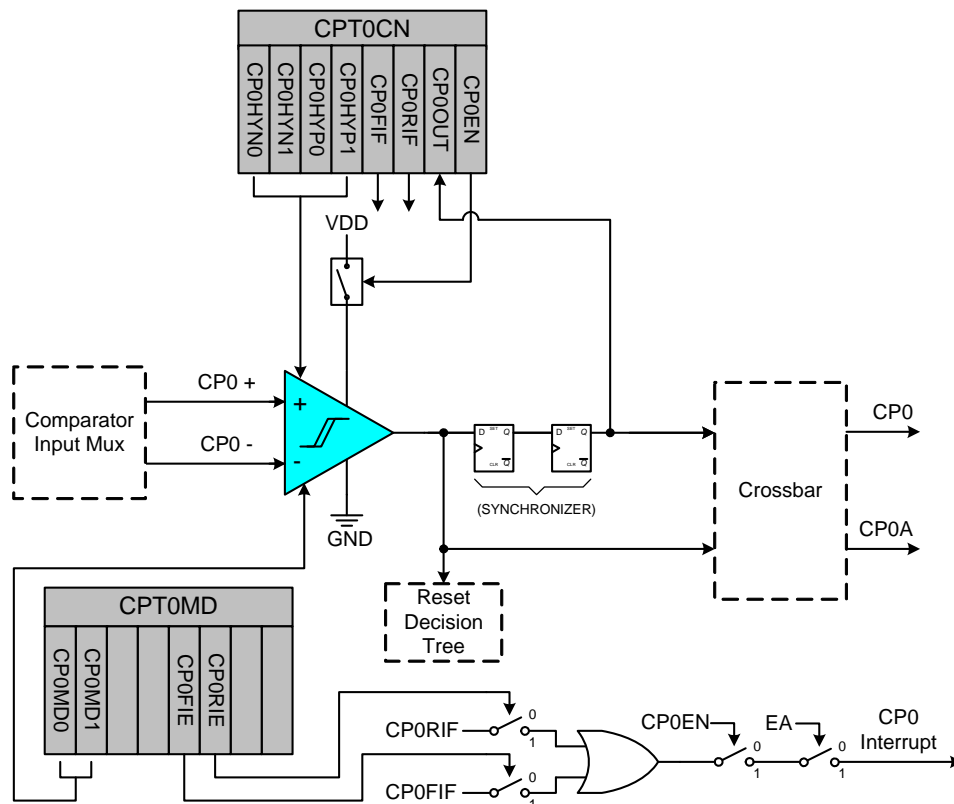
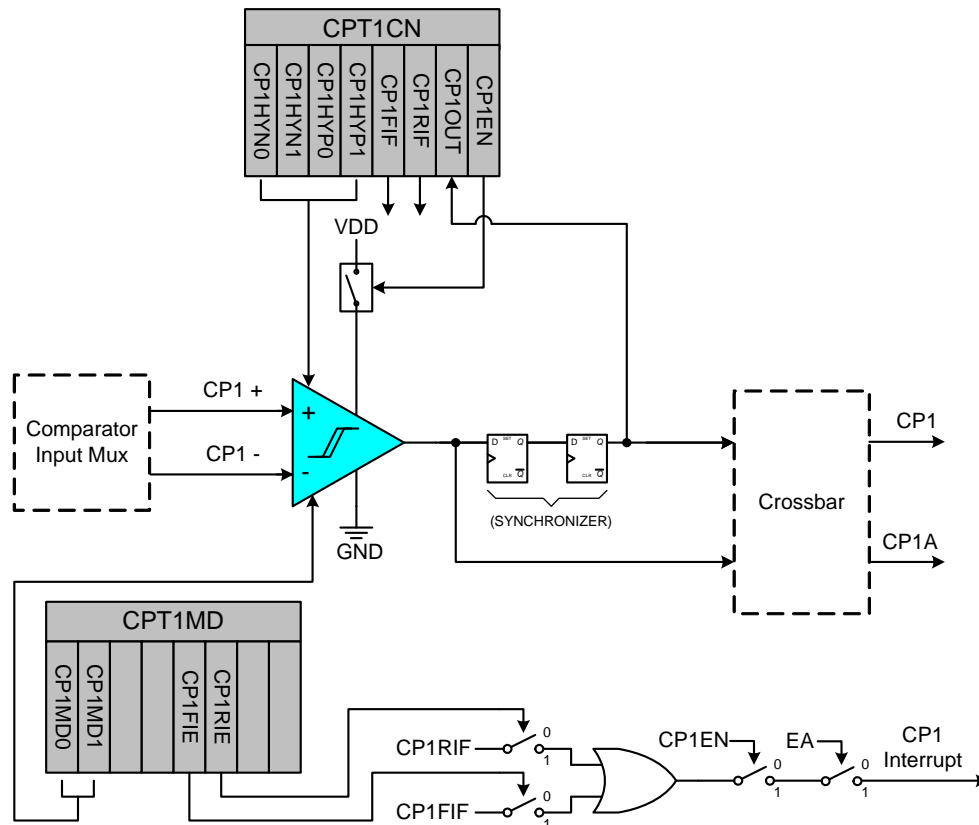

Figure 12.1. Comparator0 Functional Block Diagram
Figure 12.2. Comparator1 Functional Block Diagram
C8051T610/1/2/3/4/5/6/7 devices include two on-chip programmable voltage comparators: Comparator0 is shown in Figure 12.1, Comparator1 is shown in Figure 12.2. The two comparators operate identically with the following exceptions: (1) Their input selections differ as described in Section “12.1. Comparator Multiplexers” on page 65; (2) Comparator0 can be used as a reset source.